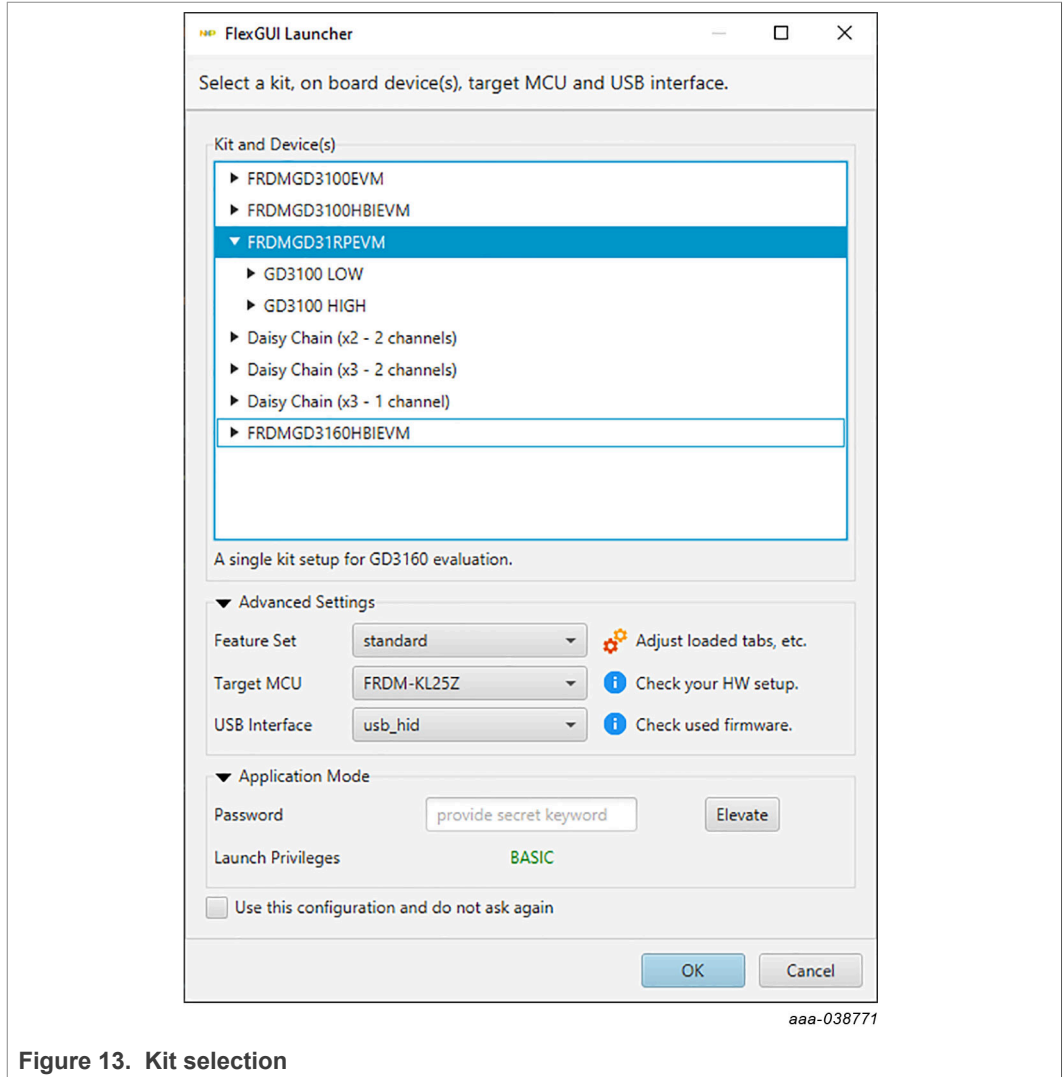
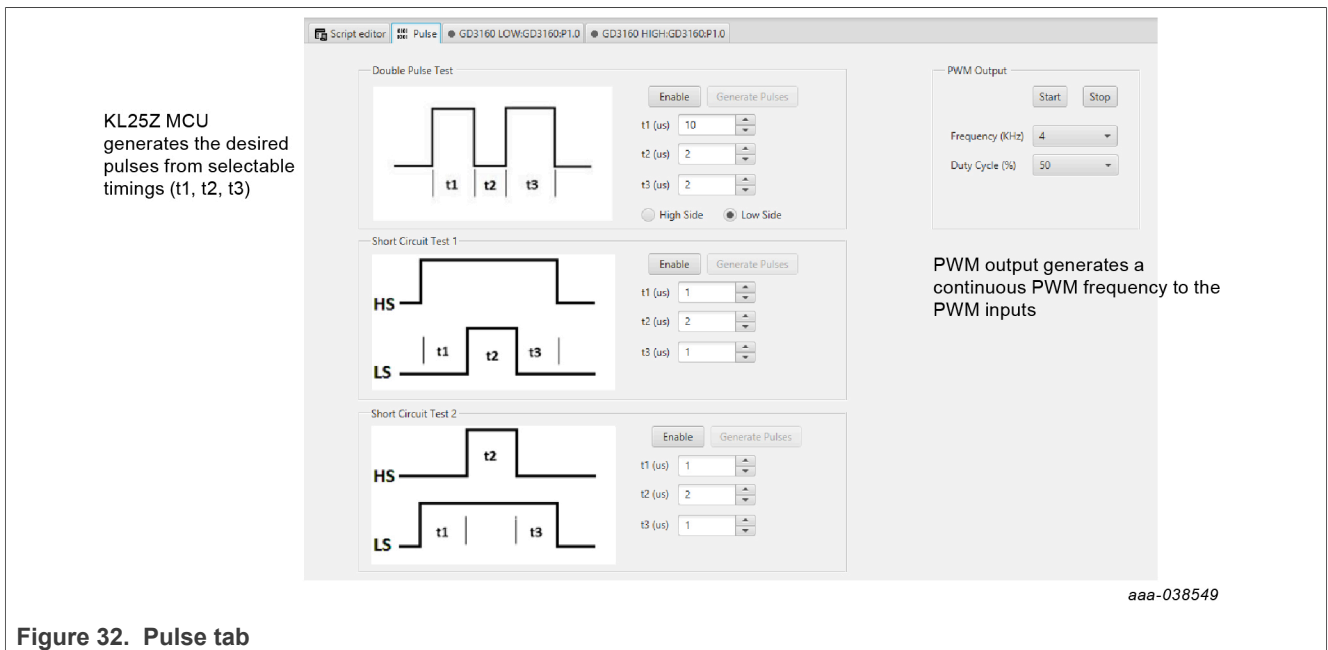

Figure 13. Kit selection
Figure 32. Pulse tab
A way to check quickly that the microcode is programmed and the board is functioning properly, is to plug the KL25Z into the computer, open FlexGUI, and verify that the software version at the bottom is 6.4 or later (see Figure 13).
SPI messages can be realized graphically or in hexadecimal format. CSB is selectable to address one or both GD31xx on the board via daisy chain. See Figure 13 to Figure 32 for FlexGUI for GD31xx internal register read and write access.
- When you start the application, Figure 13 allows you to select the target application board, feature set (standard or daisy chain), target MCU, and USB interface. Leave all settings as shown.